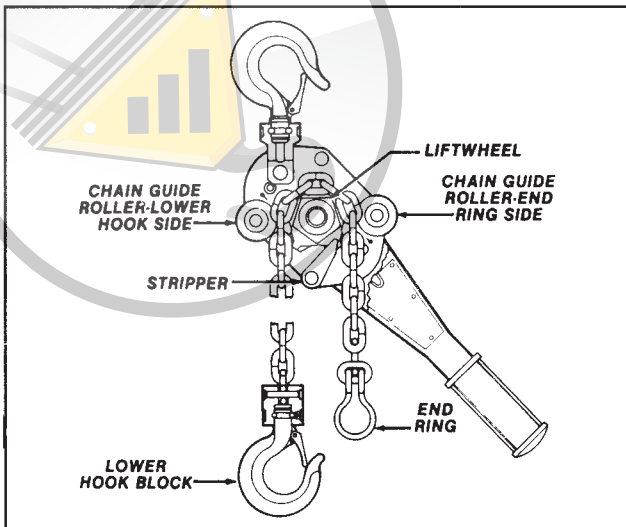

Figure 8. Reeving-3/4, 1-1/2 and 3 Ton
To install a new length of load chain, it is necessary to disengage the old chain from the lower hook block. To do this, work the retainer spring, one coil at a time, on to or off of the hook body. Remove the chain pin to allow the hook block to be removed from the chain. Arrange the tool for free chaining (see page 4) and pull the old chain through the unit. Disengage the free chaining feature and then set the directional lever to neutral (N). Start an upstanding link of the replacement load chain into the hook side of the tool and between the chain guide roller and the liftwheel with the weld side of the upstanding links facing away from the liftwheel. Refer to Figure 8.
Continue to feed the chain in to the hoist while turning the free chaining knob clockwise. Be sure to guide the chain between the liftwheel and chain guide roller on the end ring side of the tool as shown in Figure 8. Continue to rotate the free chaining knob and pull on the loose end of the chain until a convenient length of chain has been passed through the unit. Assemble the end ring to the free end of the chain by rotating the last link 1/4 turn and passing the ends of the ring through the link as shown in Figure 8. Hammer the ends of the ring together to secure it to the chain. Insert the last link of chain on the hook block side of the tool into the recess on top of the hook block. To secure the chain, slide the chain pin through the hook block and the last link of chain. Slide the retainer spring up the hook block until it snaps into the recess for same, to secure the chain pin.
Feed load chain between liftwheel and chain guide, as shown in Figures 8 & 9.